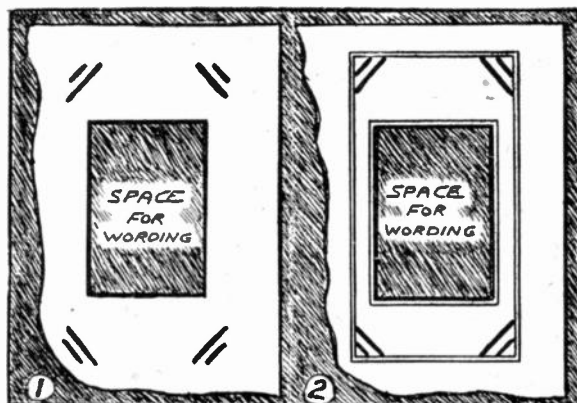

Fig. 2—The front (1) and reverse (2) of a prepared page
The back of the page, it will be found, is inclined to look untidy if left without further treatment, the strips of card showing through the slots not being very 'artistic'. This appearance can be improved, however, by putting a simple design round the card-position as in Fig. 2 (2).